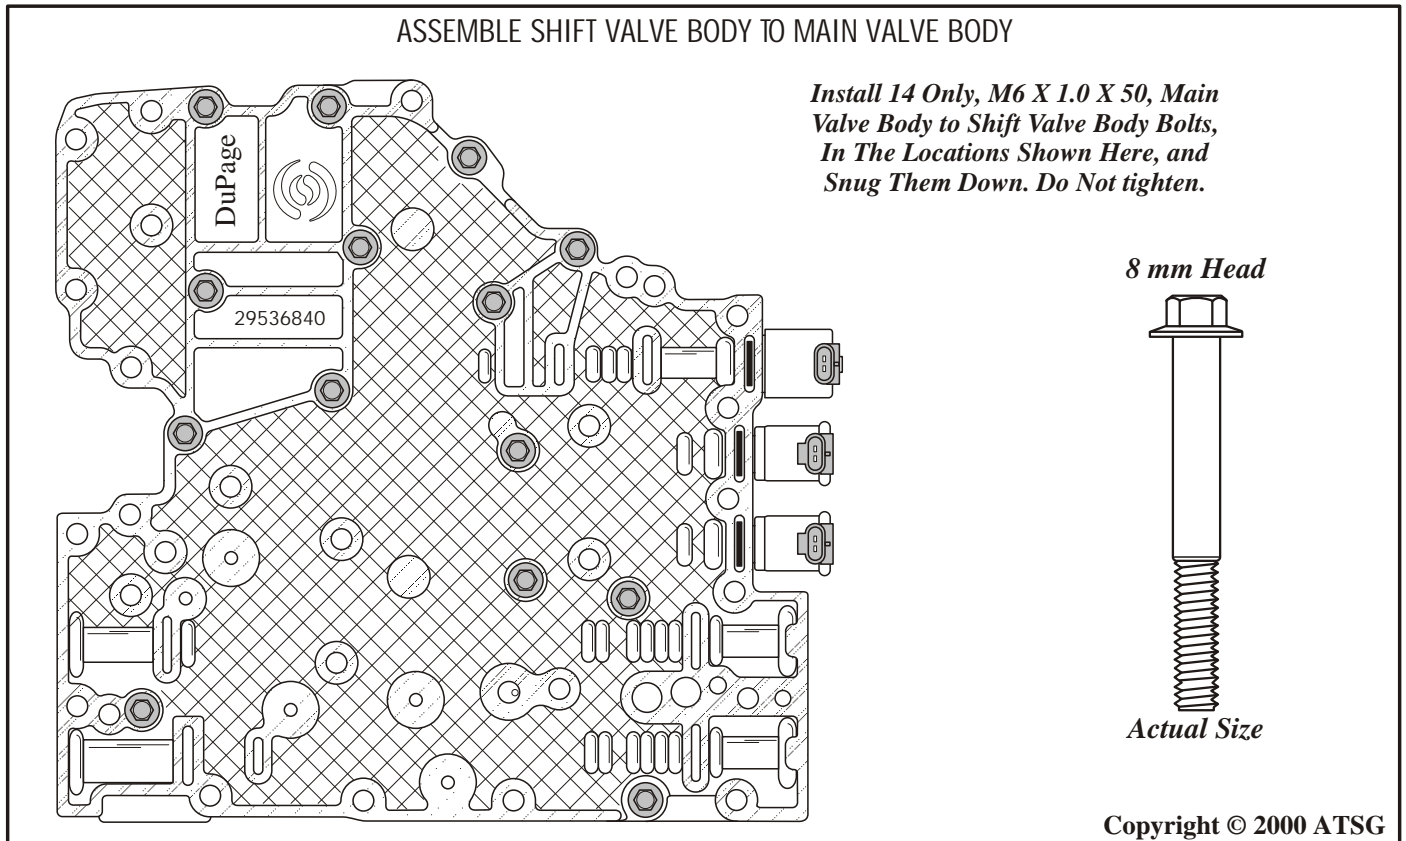

Figure 125
16. Turn the entire assembly over on the flat work surface, as shown in Figure 125.
17. Install only 14, M6 x 1.0 x 50mm, main valve body to shift valve body bolts in the locations shown in Figure 125, and snug them down.